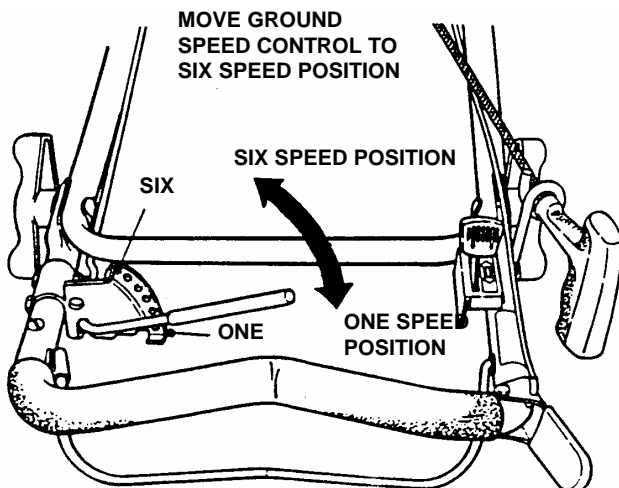

FIGURE 11
A. Place speed control rod in the number six speed position. See Figure 11.